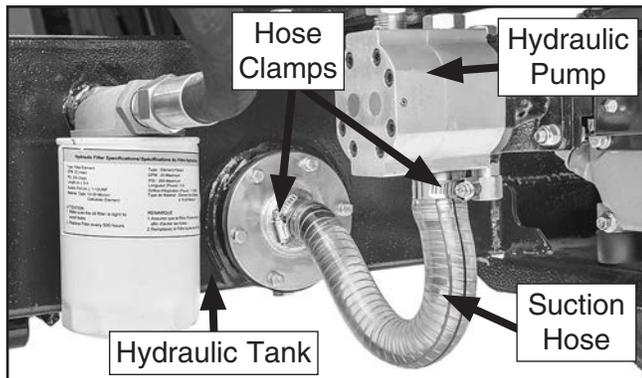

Figure 20. Suction hose attached to hydraulic pump and hydraulic tank.
- Attach suction hose to hydraulic pump suction port and hydraulic tank with hose clamps (see **Figure 20**).